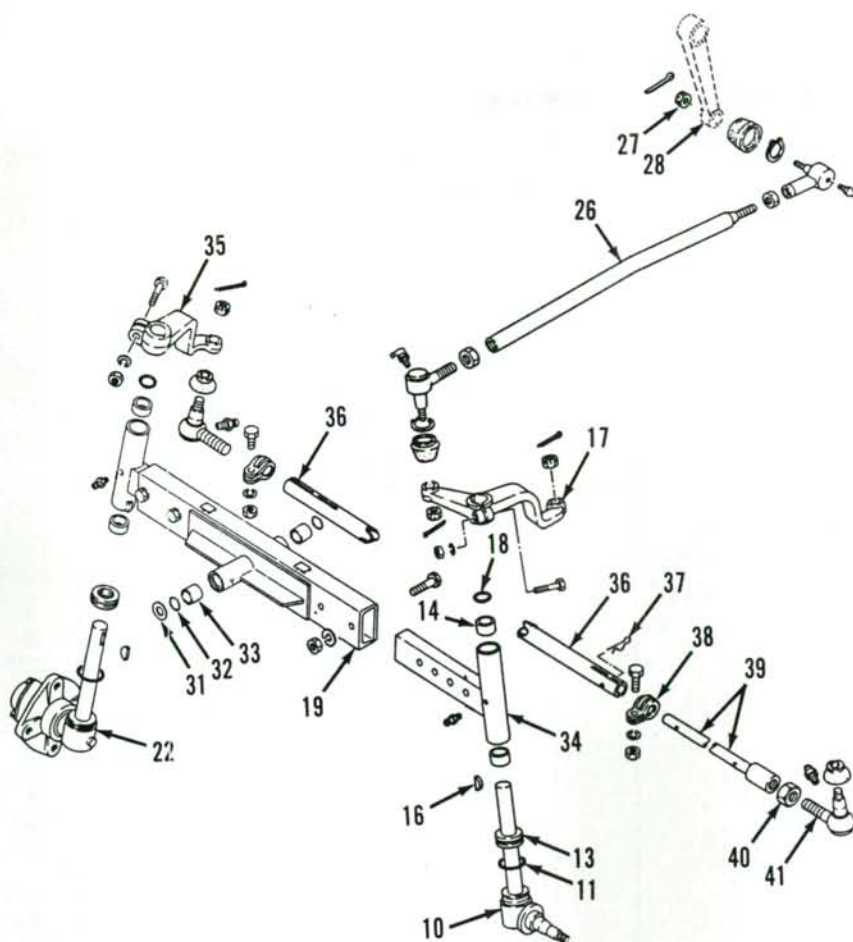

Fig. 3—Exploded view of adjustable axle used on some 245 and 255 models.
2. A single tie rod connects left and right steering arms of spindles (10 and 22—Fig. 1, Fig. 2 and Fig. 3) for 235, 235H, 245 and 255 models. Automotive type ends are not adjustable for wear and should be renewed if worn. Tighten nuts attaching tie rod ends to steering arms to 59-88 N·m (43-65 ft.-lbs.) torque.
Rod ends threaded into tie rod are used to adjust the distance between ends and establish front wheel toe-in. Recommended toe-in is 4-8 mm ($\frac{3}{16}$ - $\frac{5}{16}$ in.) and should be measured between wheel rims on centerline of axle, parallel to ground. Rotate wheels and re-measure to be sure that wheels are not bent, giving incorrect reading. Tighten rod end jam nut (40—Fig. 3) to 59-88 N.m (43-65 ft.-lbs.) torque after toe-in is correctly set. Bolt for clamps (38) should be tightened to 25-29 N.m (18-22 ft.-lbs.) torque. Holes in tie rod tubes, pins (37) and clamps (38) are used to adjust length of tie rods when changing width of adjustable axle as outlined in paragraph 14.
6. To remove either spindle (10 or 22—Fig. 3), first raise and support axle, then remove wheel and hub. Detach tie rod from steering arm (17 or 35) and drag link (26) from left steering arm (17), if left spindle is being removed. Remove clamp bolt attaching steering arm to spindle, then pull steering arm from spindle. Remove seal (18) from top and withdraw spindle (10), thrust bearing (13) and "O" ring (11) from bottom.